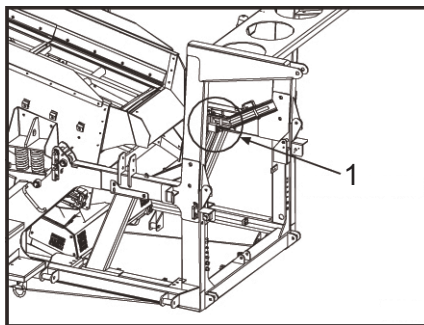

Figure 6.26 - Tail Conveyor Block
4. Using 4 bank control valve take the weight off the tail conveyor block. Remove fasteners and tail block, as shown in Figure 6.26.